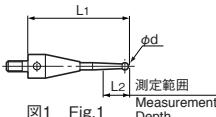

図1 Fig.1 测定範囲 Measurement Depth
- 何等かの原因により振れが発生した場合は主軸を180°回転させてワークに接触させ計測値の $(A+B-6)/2$ により、ワーク位置を求めることができます。(図1)
- Alternatively, the runout can compensated as follows; Obtain the two different positions by turning the spindle by 180° and contacting between the stylus and the workpiece surface respectively. Then calculate $(A+B-6)/2$ to find out the exact location of workpiece. (Fig.1)